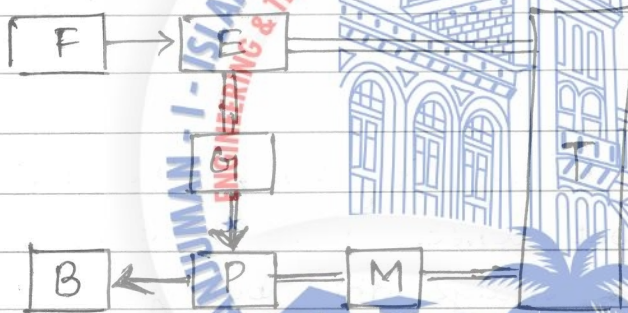

fig 4e Mode 5
- Mode 5 : To charge the battery during driving (fig 4e) the ICE delivers the required traction power and also charges the battery. The EM acts as a generator